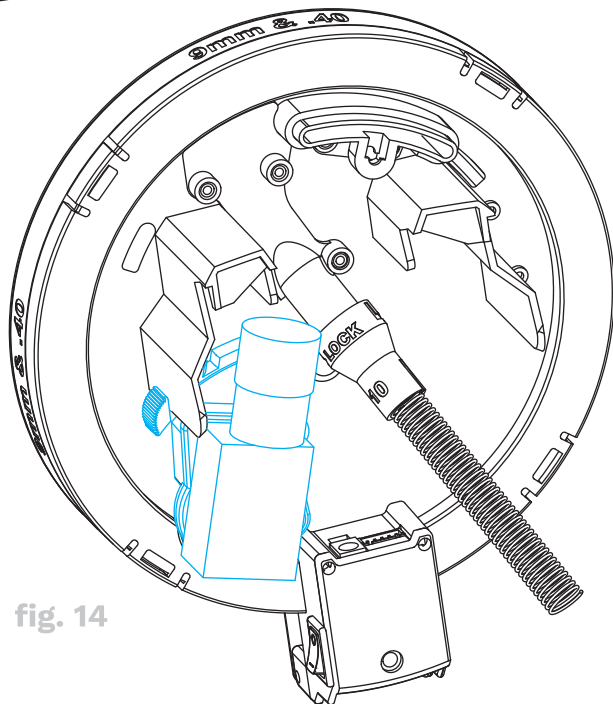

fig. 14
3. While holding the lever, rotate the entire motor assembly (see fig. 14) to disengage the drive gear.